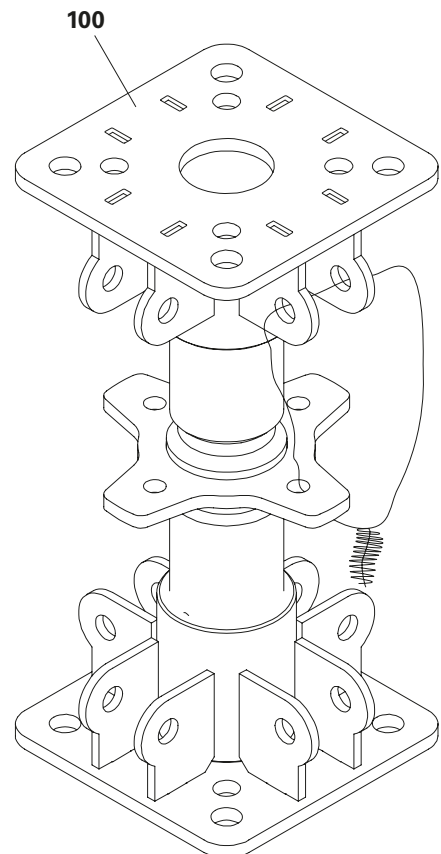

Fig. A1.34
- The Spindle ATS 360-550 (100) must not be greased
- After height adjustment has taken place, secure the Spindle ATS 360-550 (100) against any unintentional downwards spindling, e.g. binding wire. (Fig. A1.34)
- The Head Spindle Centring ATS (104) is used for a concentrated transfer of the vertical force from the main beam into the ALPHAKIT Tower.